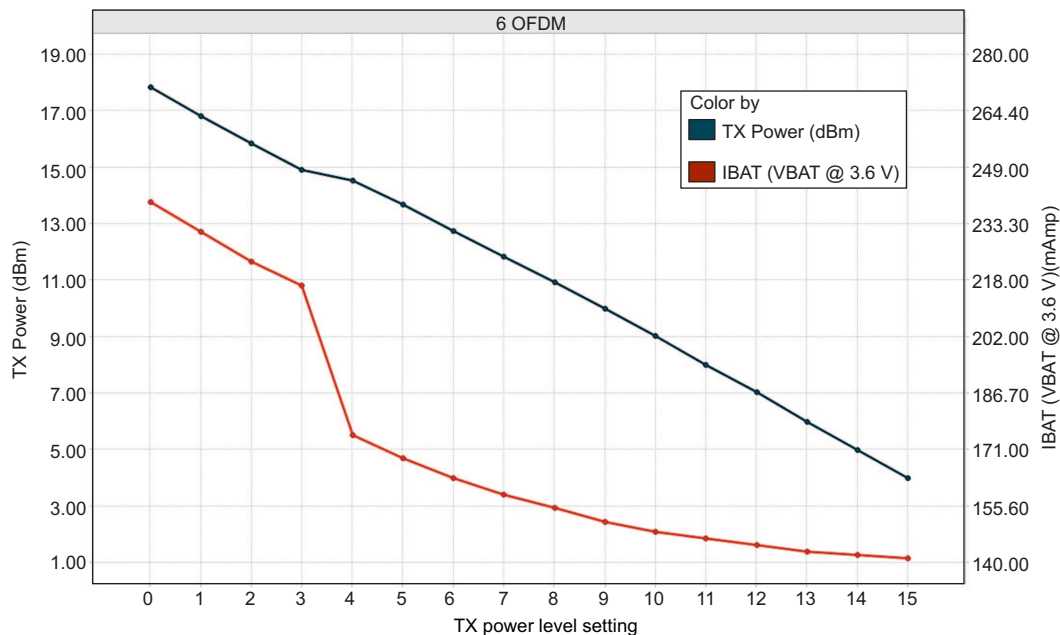
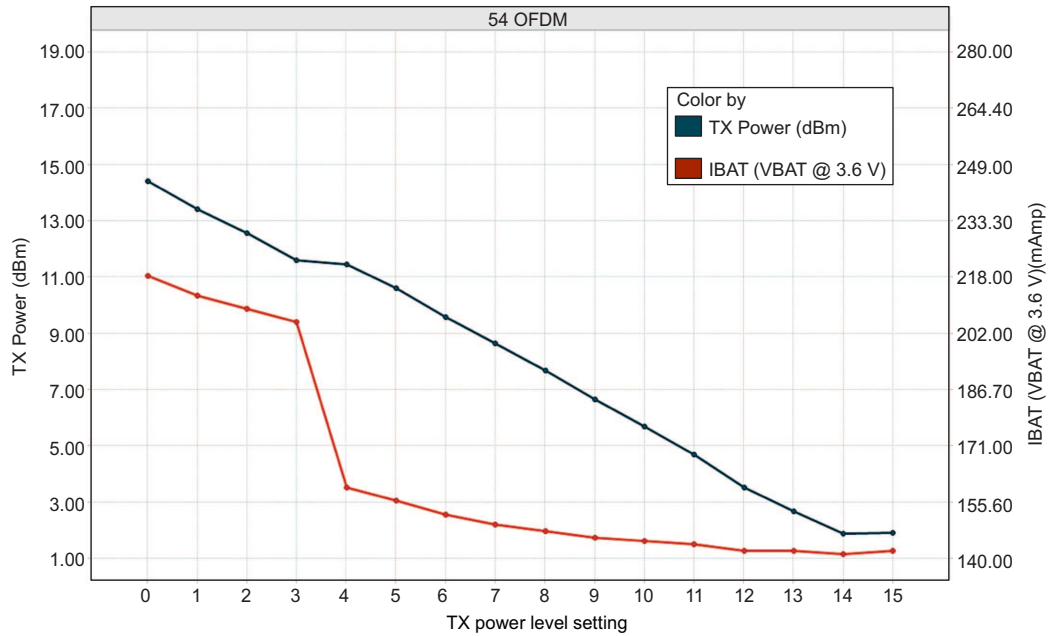

Figure 4-2. TX Power and IBAT vs TX Power Level Settings (6 OFDM)
Figure 4-3. TX Power and IBAT vs TX Power Level Settings (54 OFDM)
- (1) TX power level = 0 implies maximum power (see Figure 4-1, Figure 4-2, and Figure 4-3). TX power level = 4 implies output power backed off approximately 4 dB.
- (2) The CC3120R system is a constant power-source system. The active current numbers scale based on the VBAT voltage supplied.
- (3) The RX current is measured with a 1-Mbps throughput rate.
- (4) DTIM = 1
- (5) For the 1.85-V mode, the hibernate current is higher by 50 μA across all operating modes because of leakage into the PA and analog power inputs.
- (6) The complete calibration can take up to 17 mJ of energy from the battery over a time of 24 ms. In default mode, calibration is performed sparingly, and typically occurs when re-enabling the NWP and when the temperature has changed by more than 20°C. There are two additional calibration modes that may be used to reduced or completely eliminate the calibration event. For further details, see CC3120, CC3220 SimpleLink™ Wi-Fi® and IoT Network Processor Programmer's Guide.